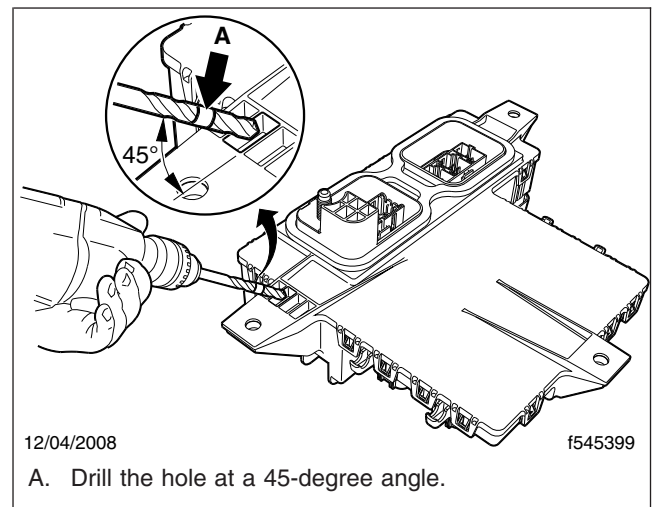

Fig. 2, Drilling the Hole in the Lower Mounting Flange
- 1.1 Mark a 1/4-inch (6-mm) drill bit with tape at 1 inch (25 mm) from the end. See **Fig. 2**.
- 1.2 With the SAM Chassis on a workbench, drill a drain hole in the lower mounting flange of the SAM chassis, as shown in **Fig. 2**. Drill the hole at a 45-degree angle. Drill only to a depth of 1 inch (25 mm). *Do not drill any further.*